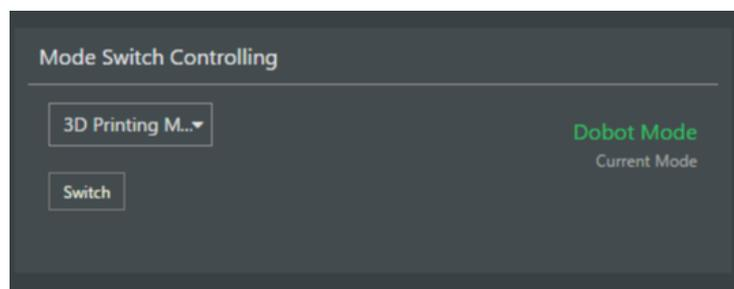

Figure 6.20 Switch 3D printing
5. Select **3D printing Mode** from the drop-down list on the **Mode Switch Controlling** pane of the **Home** page and click **Switch**, as shown in Figure 6.20.